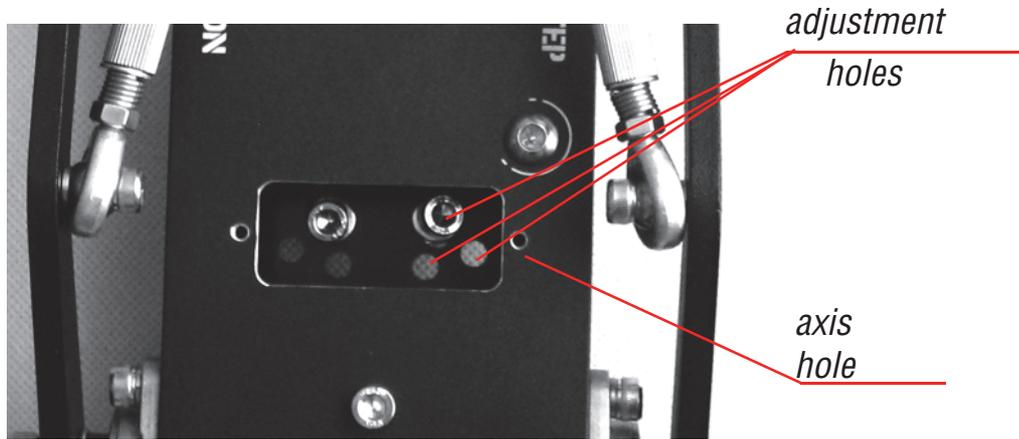

Fig. 2.6.
4.2. Choose an appropriate adjustment hole and insert the screw with washers into it (fig. 2.6).